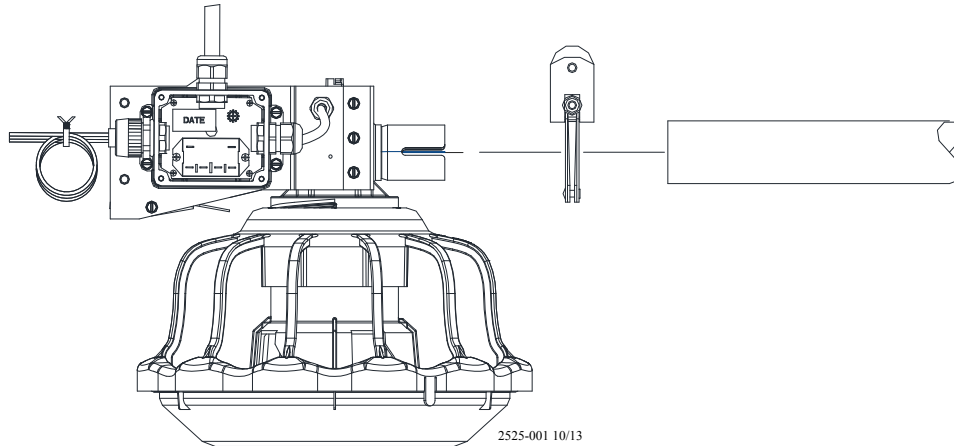

Figure 45. Connecting End Control Unit to the Feed Line Tube
1. Assemble the End Control Unit to the Feeder Line Control Tube using a clamp/anti-roost bracket. See Figure 45. **DO NOT INSTALL THE POWER UNIT AT THIS TIME.**